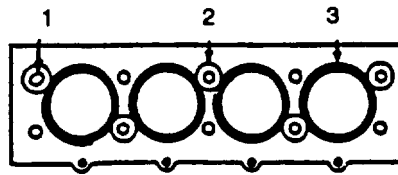

FIGURE 3-121. Fastening Cylinder Liners
- f. Use short capscrews (1) and 1/8 inch (3.18 mm) thick washers (2) to bolt down cylinder liners (3). Fasten liners in five locations, refer to FIGURE 3-121. Tighten caps crews to 50 ft-lbs (68 Nm).